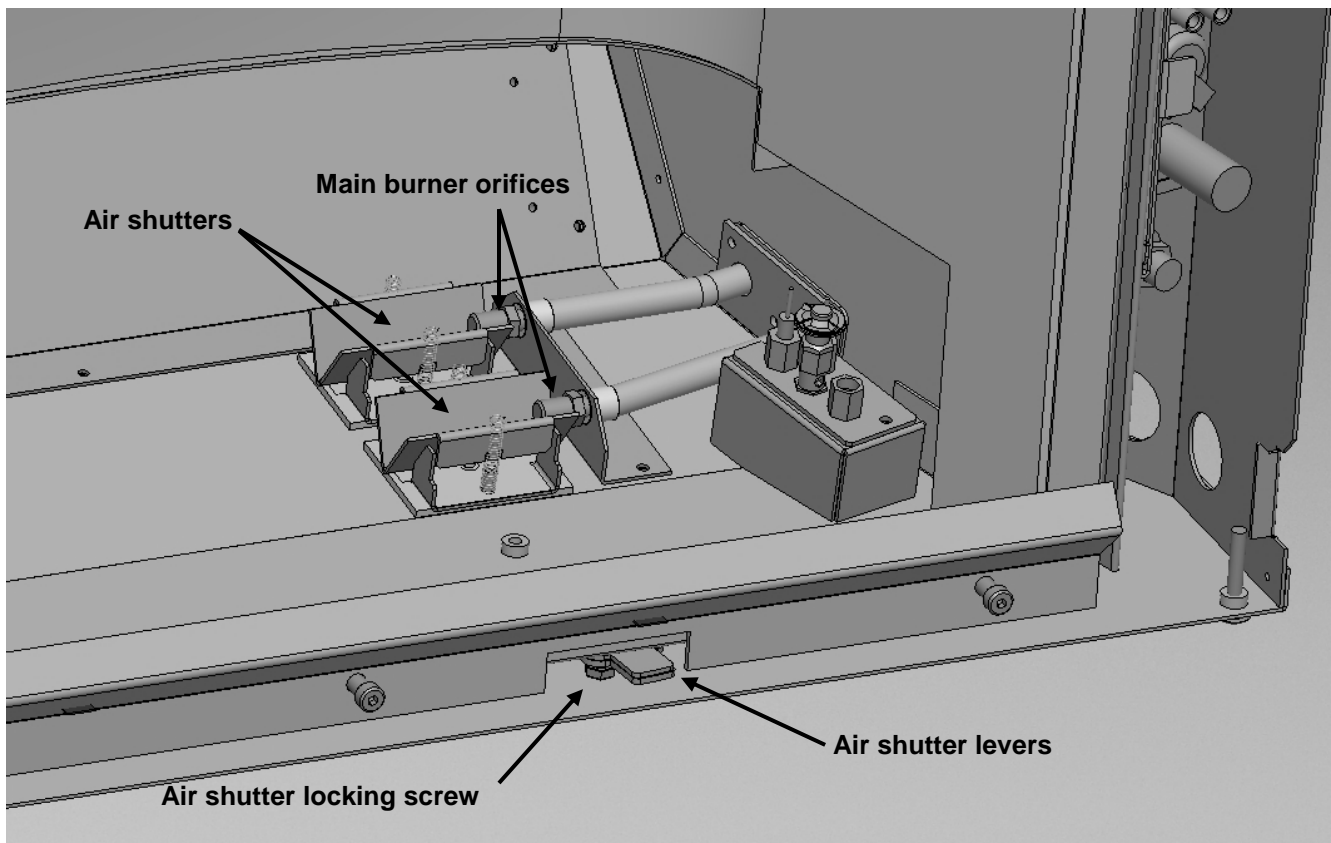

Figure 1
5. Place the two air shutter back in their original cradles. Be sure to carefully align the springs onto the slots on the air shutters. Loosen (but do not remove) the screw that locks the air shutters in place. Adjust the air shutters to a preliminary fully closed position (for NG) by sliding the air shutter levers all the way to the Left. Moving the levers to the right will open the air shutters. Moving them to left will close the air shutters. When the shutters are in the desired initial position tighten the locking nuts finger tight. See *Figure 1* below.